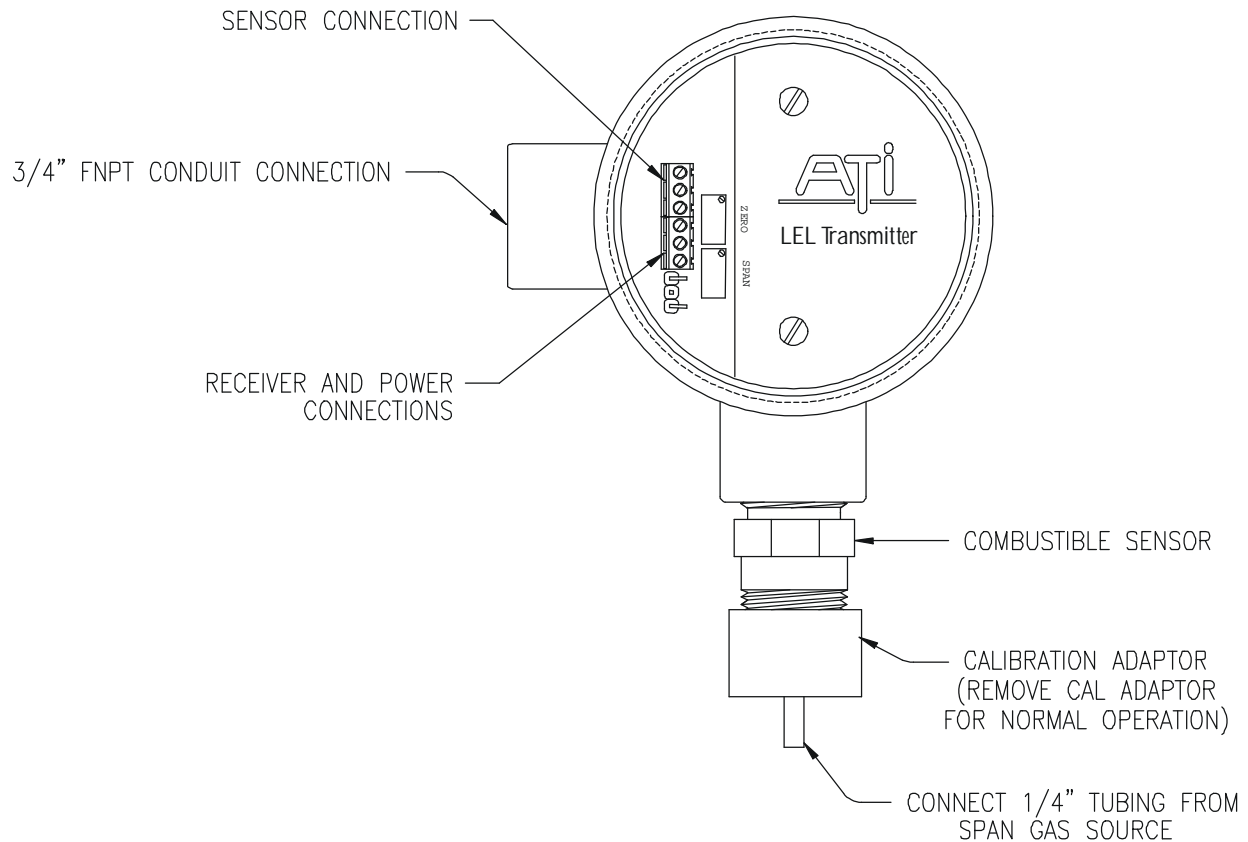

Figure 7: Sensor/Transmitter Connectors, Controls and Test Points (ATI-0143)
Prior to calibration, remove the cover from the sensor/transmitter enclosure and connect a DVM to the test points (TP) shown in Figure 7. If the receiver for the system is near enough to easily see, you may use the digital display on the receiver instead of a DVM on the test points. The test points will provide a 40-200 mv. signal proportional to transmitter range. For a standard 0-100% LEL unit, 0% is 40 mv. and 100% is 200 mv.
To observe the response at the transmitter, it is necessary to connect a DVM to the test points indicated in Figure 7. If the receiver is nearby, you may simply observe the digital display on the receiver. If the sensor does not respond, it should be replaced.